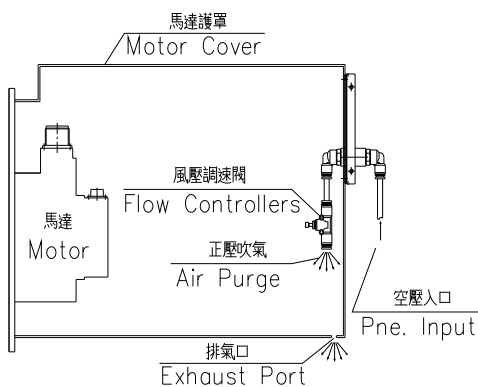

Fig 6-1
- (8). Supply compressed air to bring up barotropic fluid inside of motor cover. Tighten the pneumatic adjustable valve by clockwise and then lose this valve by 1/4~1/2 round to release the air (till sound of spout appears and air eject from nozzle). The positive air pressure stays to avoid any humidity accumulated in the cover and prevent damage and corrosion of internal electrical components. (see Fig 6-1)
- (9).Set up rotary table parameters.(see *Parameter Sheet of package*)
- (10). Trial run.
- (11).Set the grid shift amount for machine zero-return.(see Page 8-2)